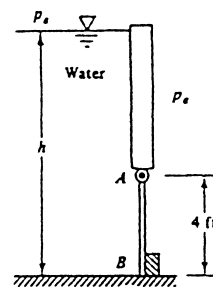

Fig. P2.55
**2.55** Gate AB in Fig. P2.55 is 5 ft wide into the paper, hinged at A, and restrained by a stop at B. Compute (a) the force on stop B; and (b) the reactions at A if  $h = 9.5$  ft.